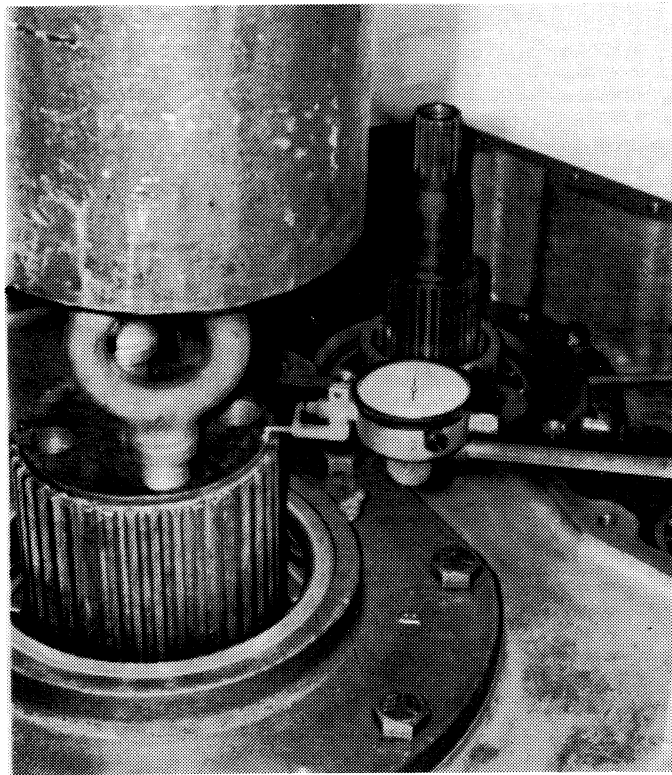

Figure 9-5. Applying Forward Force on Output Shaft.
e. Install calculated shim pack under the output seal carrier and install O-ring (7).
f. Secure with eight hex-head screws (11). Torque the screws 140 lb. ft.
g. Check the endplay by installing two eyebolts into the end of the output shaft and applying 300-900 lb. downward thrust to the output shaft. See figure 9-5.
i. Install an indicator onto the housing with the finger resting on the rear of the output shaft. See Figure 9-5.